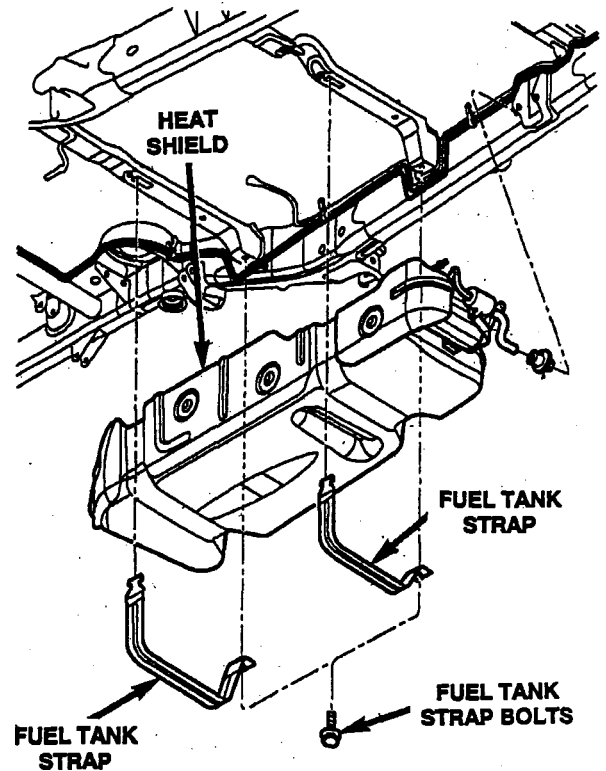

Figure 9
4. Remove the two fuel tank strap bolts and remove both tank support straps (Figure 9).
27. Install and position both fuel tank support straps (Figure 9).